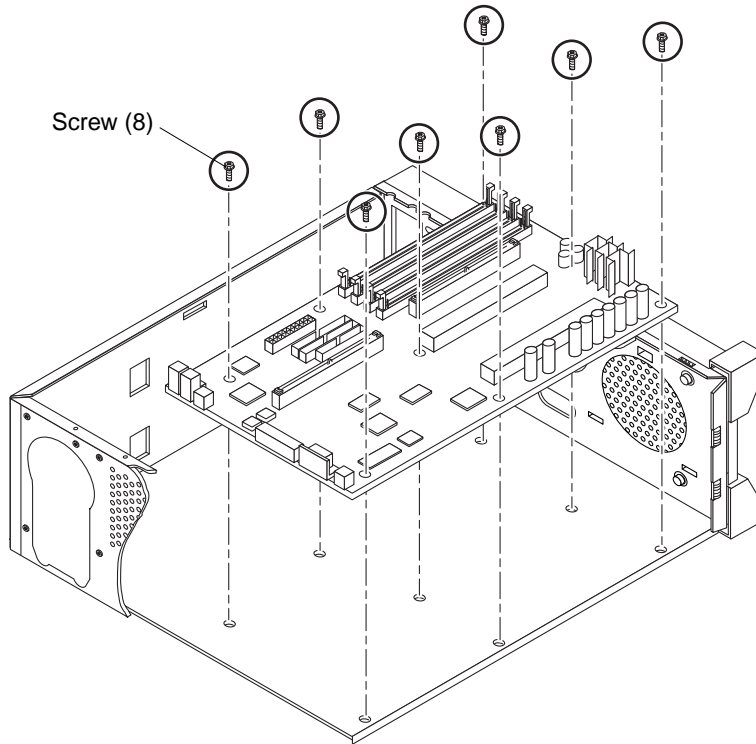

FIGURE 8-7 Removing and Replacing the Motherboard
2. Remove the motherboard as follows (FIGURE 8-7):
2. Replace the motherboard as follows (FIGURE 8-7):